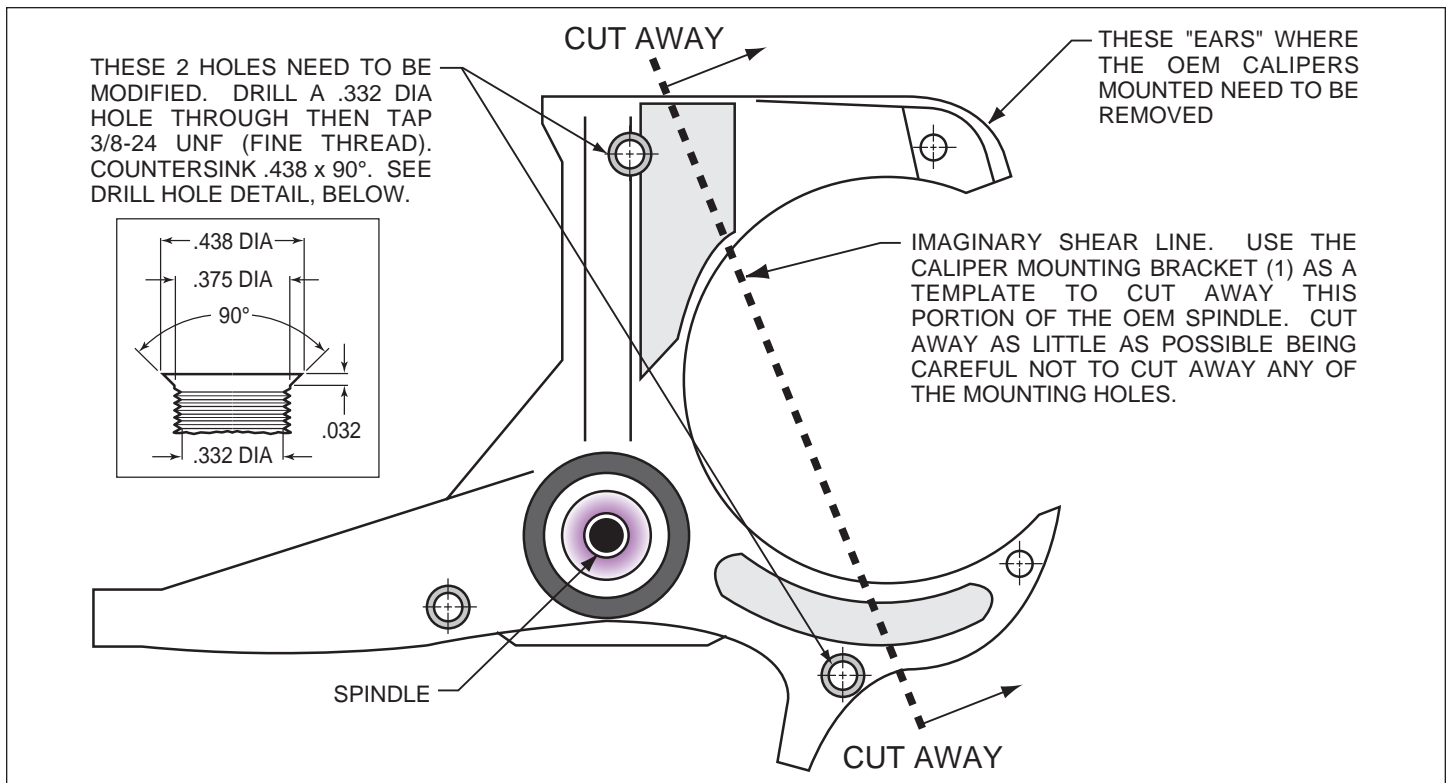

Figure 1. Steering Arm / Spindle Modifications
NOTE: This modification should be performed by a qualified machinist and completed before assembly of the Wilwood disc brake kit begins. Refer to Figure 1 on the following page as necessary (numbers in parenthesis refer to the parts list on page three). Only one view of the steering arm/spindle is shown, but the modifications need to be performed on both steering arm/spindles.
The two stock holes that will be used to mount the caliper mounting bracket (1) need to be modified, as shown in Figure 1. Drill a .332 diameter hole through the two holes, then tap 3/8-24 UNF (fine thread). Countersink the holes to .438 x 90°. The “ears” that protrude to form a “C” shape need to be removed to facilitate the installation of the Wilwood caliper (16). Using the bracket as a template, mark two cut marks on the steering arm. Remove as little as necessary from the “C” shape, being careful not to cut away any of the mounting holes required to bolt on the bracket.